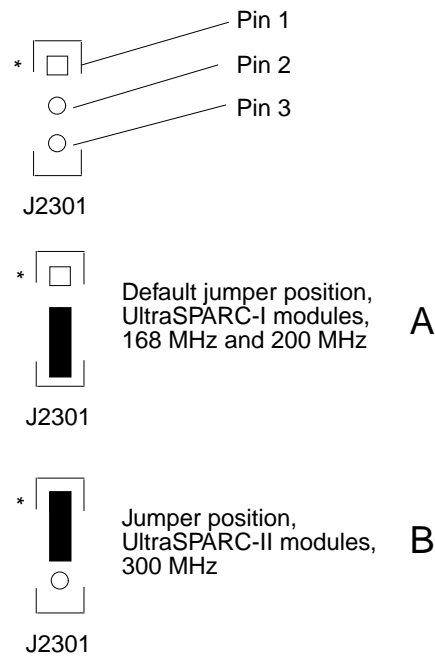

Figure 6-2 Clocking Select Jumper Positions
- Figure 6-2 shows the two available jumper settings.
- ◆ Use needlenose pliers to remove the jumper from position A and to install the jumper at position B (Figure 6-2).